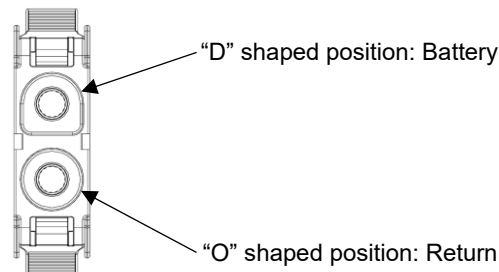

Fig. 2-17: Connector Front View
52. Insert retainer into plug housing as shown in Fig. 2-17. Ensure the retainer flanges are inserted into the connector first.